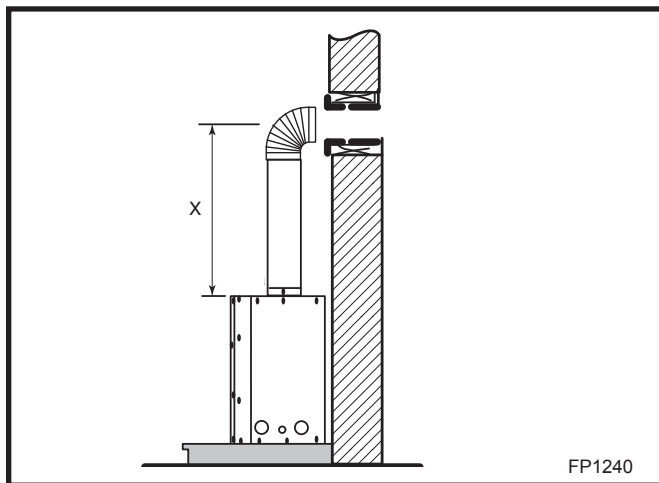

Fig. 49 Vertical height requirement.
Place fireplace into position. (Fig. 49) Measure the vertical height (X) required from the base of the flue collars to the center of the wall opening.